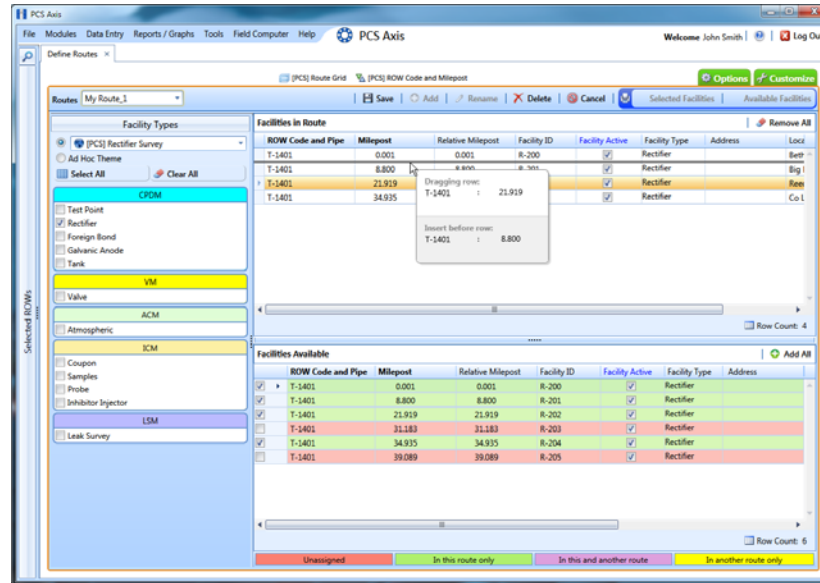

Figure 7-11. Arranging the Order of Facilities
- 2 Arrange the order of facilities listed in the *Facilities in Route* grid as needed using any of the following methods (Figure 7-11):
NOTE: A message displays when moving selected grid rows to confirm the new location in the grid (Figure 7-11, page 295).